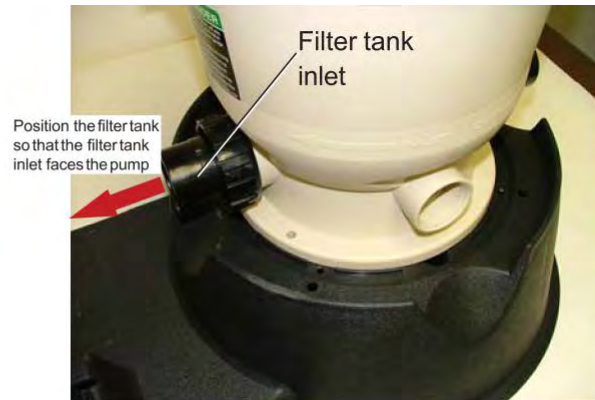

Figure 5
2. Position the filter tank foot so that the filter tank inlet faces the pump end of the system base (see Figure 5).